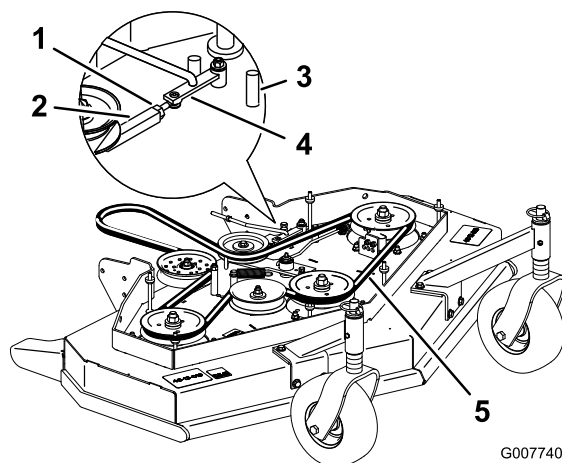

Figure 8
3. Loosen the locknut on the turnbuckle (Figure 8).
4. Rotate the turnbuckle toward the rear of the mower deck to increase the tension on the belt. Rotate the turnbuckle toward the front of the mower deck to decrease the tension on the belt (Figure 8).